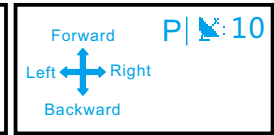

Figure 10-2: Mode 2
- Under Mode 2 (See Figure 10-2), the drone can execute commands for forward, backward, left, and right movement.